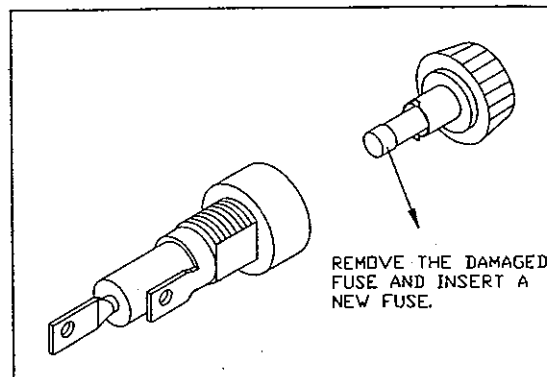

Fig. 3
3. Remove the damaged fuse (see Fig. 3).